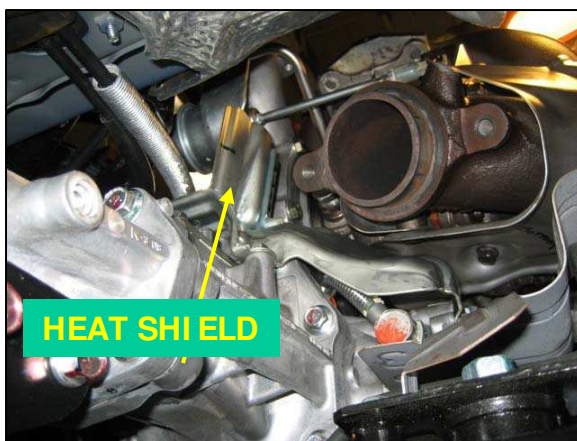
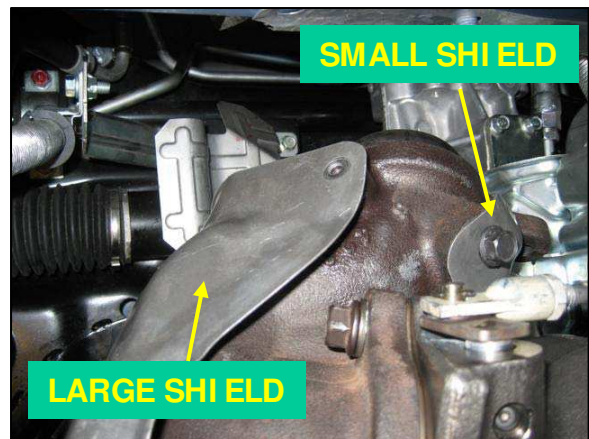

Fig. 17
Fig. 19
19. From underneath the vehicle, remove the heat shield attached to the top side of the transfer case, behind and below the turbocharger. This part will be trimmed in step 49 and reused. Bolts fasten downward into transfer case (3 bolts, 10mm socket). See *Fig. 17*.
21. From above the turbocharger, locate the large heat shield that covers the downpipe. There is a small heat shield that shares one hole with the large shield and also has its own bolt. The shared bolt is on the underside of the downpipe. Remove 3 bolts total to free both heat shields, note orientation and remove them. These parts will be reused (3 bolts, 14mm socket). See *Fig. 19*. These shields can also be seen in *Fig. 17*.